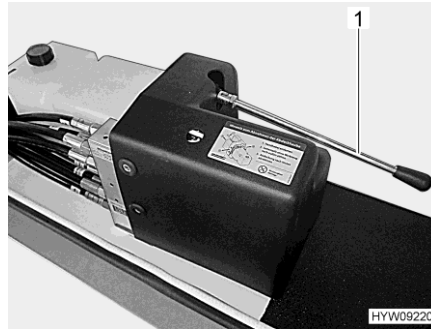

Fig. 48 Lever (emergency release)
- Retract the steady leg with the hand pump. To do this, pump with the lever (Fig. 48,1) until the steady leg is retracted.